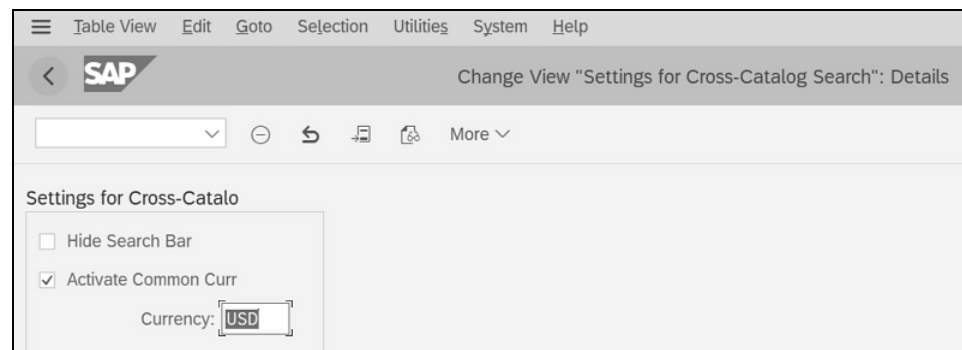

Figure 5.29 Cross-Catalog Search Settings
5. Maintain a common **Currency** to enable a price filter on items. Follow IMG menu path **Materials Management • Purchasing • Purchase Requisition • Self Service Procurement • Define Settings for Cross Catalog Search** as per Figure 5.29.